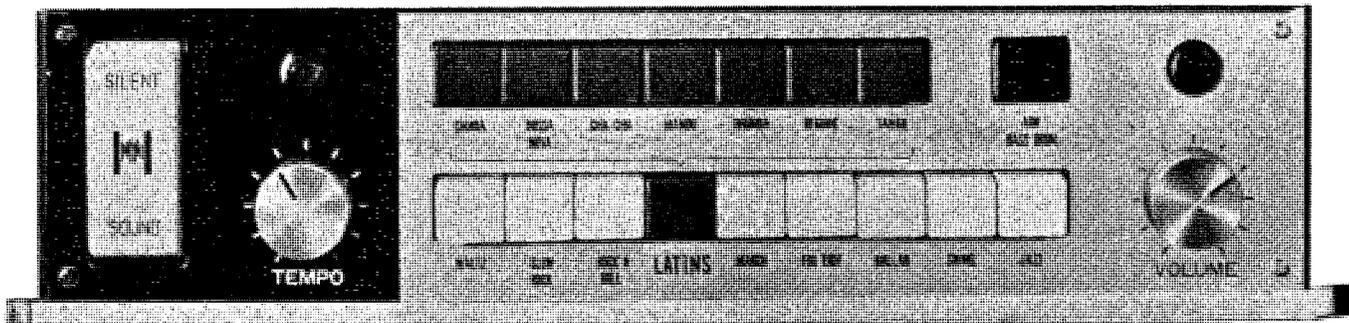
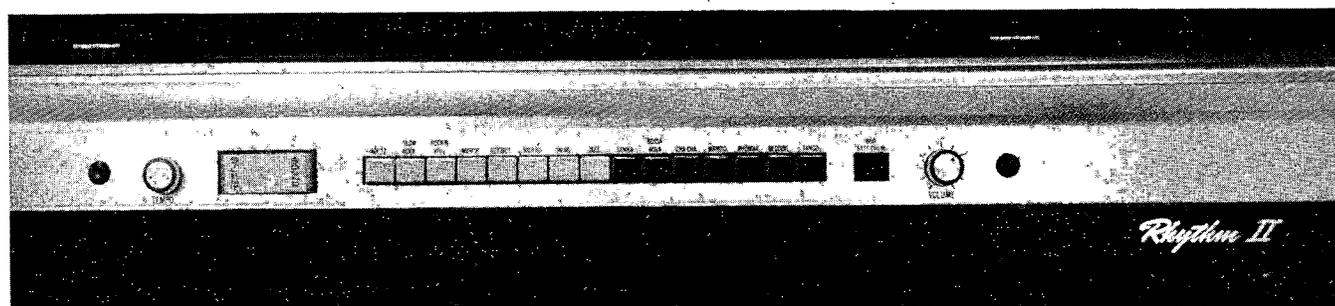

Figure 1-1 Rhythm II Control Arrangement (Drawer)
Figure 1-2 Rhythm II Control Arrangement (Inbuilt)
While both forms are electronically almost identical, the built-ins and N-Series "drawer" installations do not require a separate power supply, and the remaining parts are contained in one assembly. For illustrations of the "drawer" unit installations, see the Appendix. The built-in control arrangement is shown in Figure 1-2. The drawer control arrangement is shown in Figure 1-1.
- 1-6. **RHYTHM PATTERNS.** – As will be seen in Figures 1-1 and 1-2, the built-in units have one row of 15 control buttons, while the “drawer” units have two rows; one of nine, the other of seven. (Exclusive of the ADD BASS DRUM button).